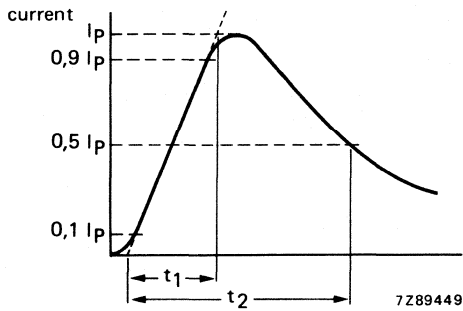

Fig. 5.
- High energy surges are generally of longer duration. The max. energy for 1 impulse 10/1000 μs is given as a reference for long duration impulses. This impulse can be characterized by peak current I_p and impulse width t_2 (virtual time to half I_p value, defined in IEC 60-2 section 6), see Fig. 5. If V_p is the clamping voltage corresponding to I_p , the energy absorbed in the VDR is determined by equation $E = K \cdot V_p \cdot I_p \cdot t_2$; K depends on t_2 . When t_1 is 8 to 10 μs and $t_2 = 20 \mu\text{s}$, $K = 1$; when $t_2 = 50 \mu\text{s}$, $K = 1,2$; when $t_2 = 100 \mu\text{s}$, $K = 1,3$; when $t_2 = 1000 \mu\text{s}$, $K = 1,4$.